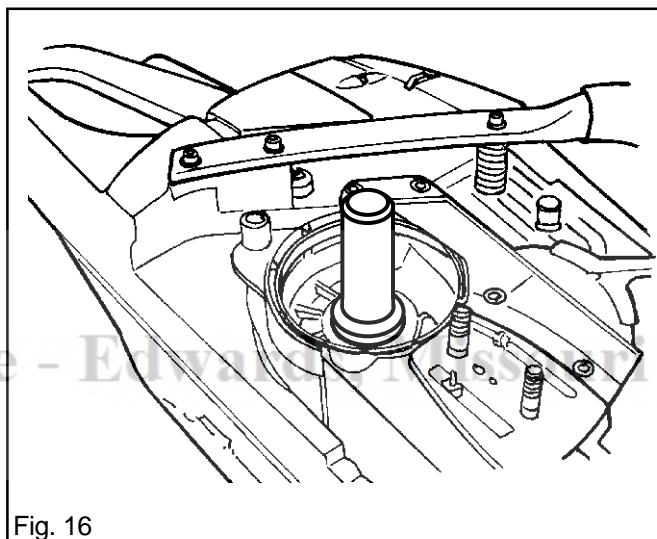

Fig. 16
3. Tap in the new seal with the drift (pos 10 or 11 on page 6 and 7). See fig. 16.
4. Fit the parts in accordance with pos. 1 above.